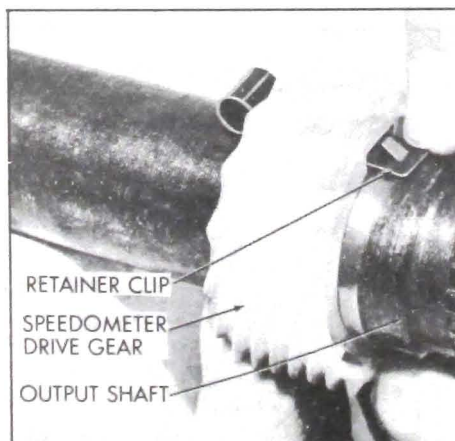

Figure 72-24 - Installing Speedometer Drive Gear
4. Install speedometer drive gear retainer clip. Align slot in speedometer drive gear with retainer clip and install. See Figure 72-24.